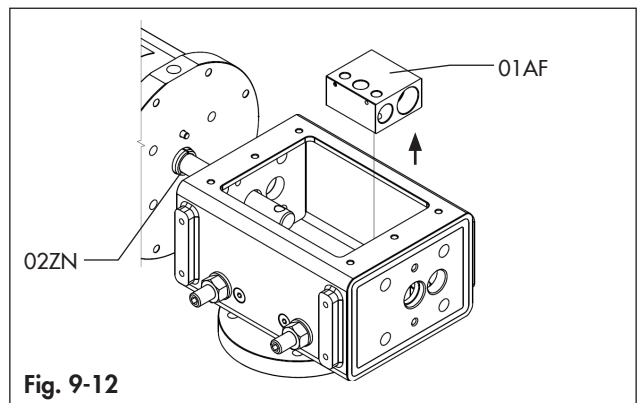

Fig. 9-12
- Remove the power module and the sliding block (01AF) (Fig. 9-12).
The component (02ZN), may result loosen since they are not fixed. (Fig. 9-12).